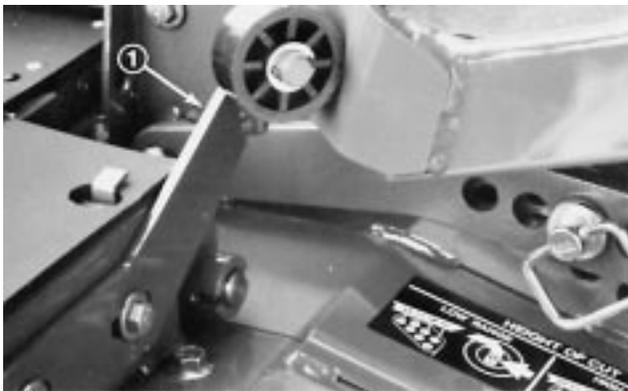

Figure 70
2. Loosen capscrews securing winglet stabilizer brackets to deck and move brackets outward (Fig. 70).